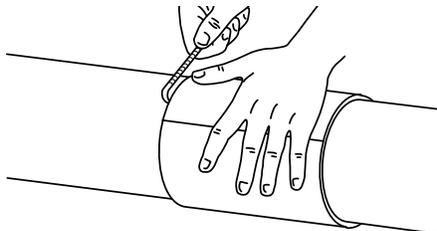

Figure 4
3. Wrap a piece of straight-edged paper around the outside of the outer conductor at the length found in step 2 above. Using the paper as a cutting guide, scribe a line along the edge of the paper all the way around the outer conductor (Figure 4).
3. Wrap a piece of straight-edged paper around the inner conductor as a cutting guide. Scribe a line along the paper edge all the way around the inner conductor (see Figure 4).